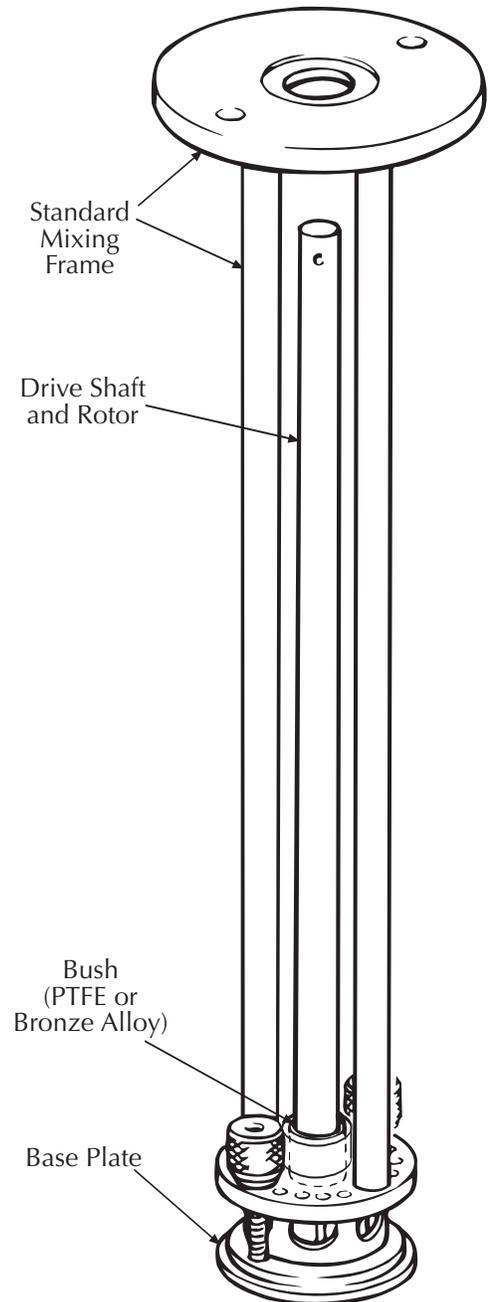

FIG.4 Standard Mixing Assembly
The L4R, L4RT and the L4RT-A are normally supplied with a standard two arm mixing assembly and a selection of interchangeable workheads/stators as shown on FIG. 4. All of the optional accessories described in the following paragraphs are interchangeable with the standard mixing assembly and available as optional extras. Silverson Machines, Inc. will be pleased to advise and quote for your specific requirements. When interchanging mixing assemblies please refer to the initial set up section of this manual for instructions. The Operation section of this manual recommends which workhead/stator should be used with certain mixing techniques and details how to change the workhead/stator.
4.3.1 MIXING ASSEMBLY (FIG. 4)